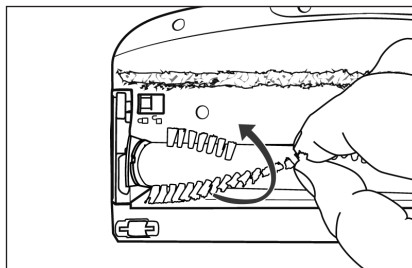

Fig. 25
- 3) Pull the rotary brush (21) out of the floor brush (22) by the bristles. Turn the rotary brush (21) slightly to make it easier to remove (see Fig. 25).